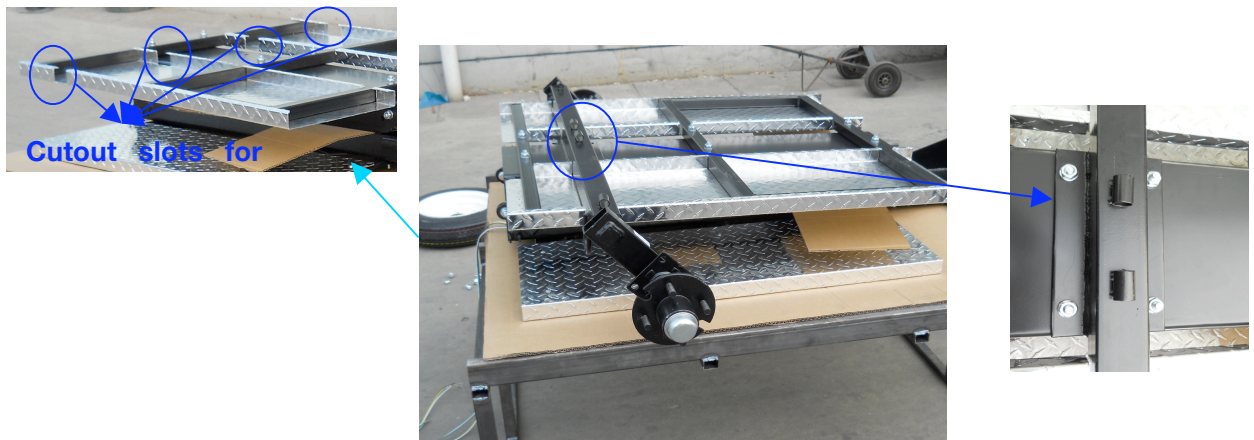

Figure 3-2
2. Affix Axle Assembly (Part# A9) to the cutout slots on the Rear Frame (Part# A6), using M10*30 Bolts (Part# B10), 10 Washers (Part# B5) and M10 Lock Nuts (Part# B6). See figure 3-2.